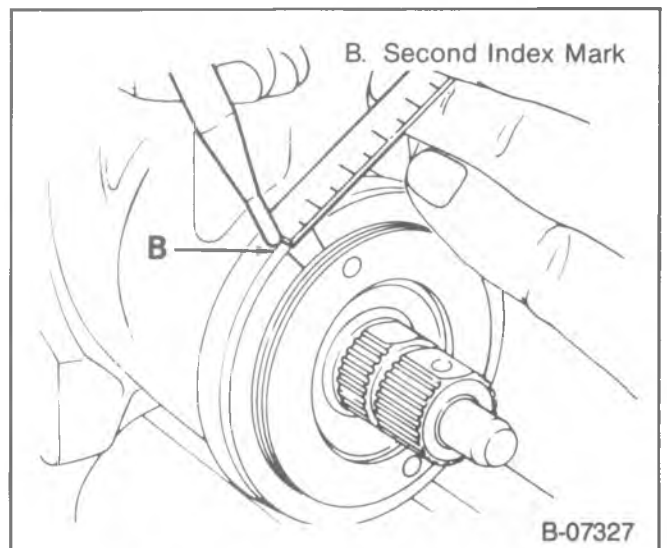

Figure 15—Remarking the Housing
4. Measure back (counterclockwise) 4.7-6.3 mm ($\frac{3}{16}$ - $\frac{1}{4}$ -inch) from the index mark and mark the housing (figure 15).